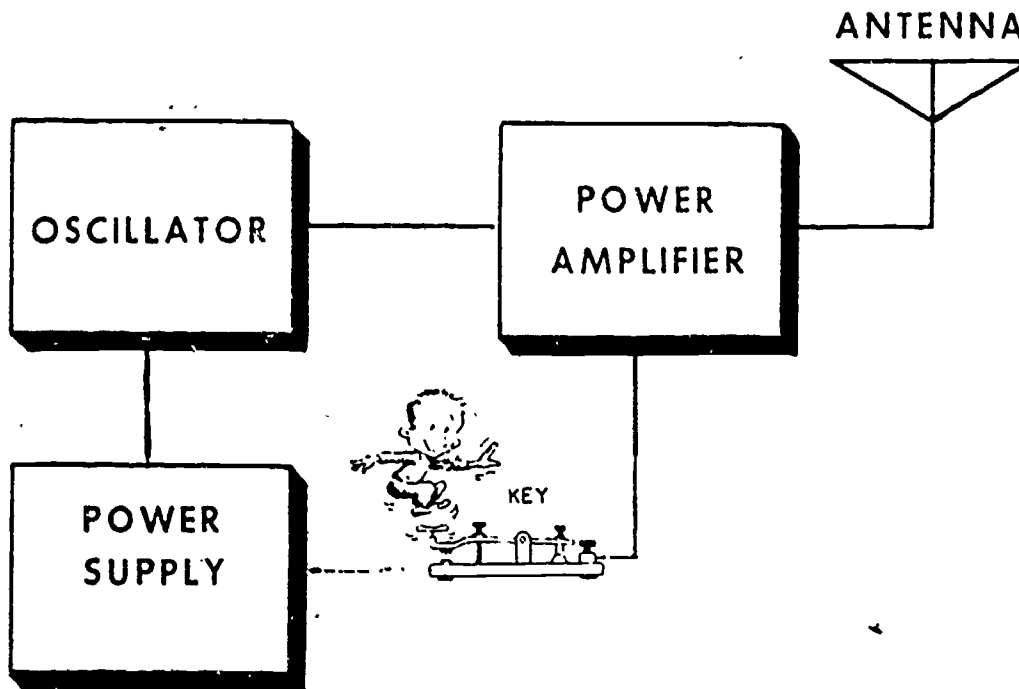

Figure 2-7. An improved CW transmitter.
- (2) A more powerful transmitter can be seen in figure 2-7. This transmitter has a more stable frequency. The frequency is stabilized by keying the amplifier instead of the oscillator.
- 5. What method should you use to stabilize the frequency of the CW transmitter shown in figure 2-7?